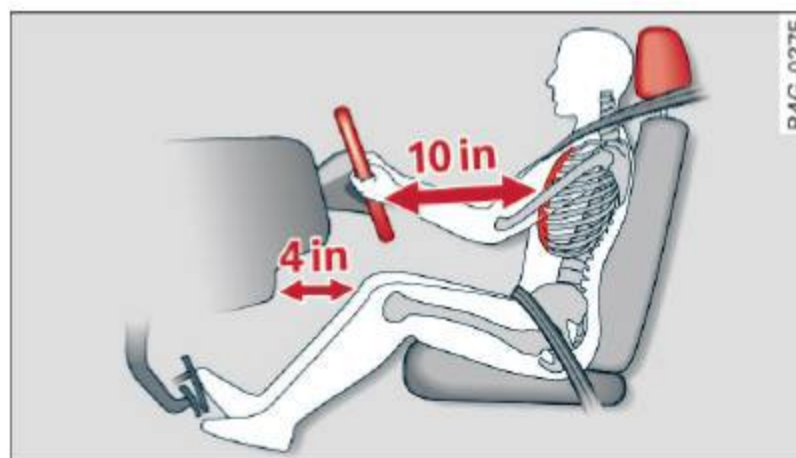

Fig. 127 Correct seating position
- ▶ Adjust the steering wheel so that there is a distance of at least 10 inches (25 cm) between the steering wheel and your breast bone ⇒ *fig. 127*. If not possible, see your authorized Audi dealer about adaptive equipment.